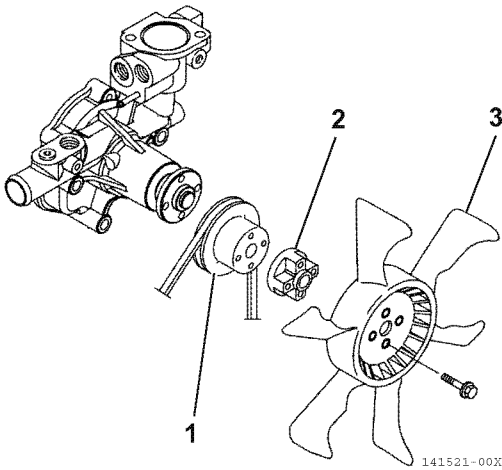

Figure 9-10
7. Install the cooling water pump V-pulley (1, Figure 9-10), spacer (2, Figure 9-10), cooling water fan (3, Figure 9-10), and fan guard (if equipped).